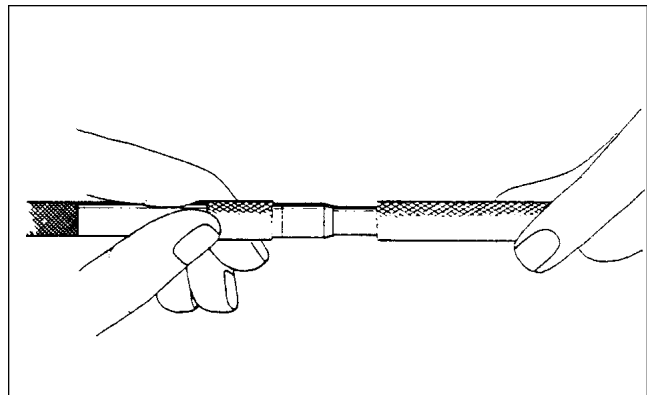

Figure 8-22. Inserting Stripping Tool
- d. Be sure the stripping tool is inserted past the cutting mark. Then cut the shielding with a sharp knife using a rolling motion. Remove the shielding and stripping tool. **Take care not to cut the silicone insulation.** Refer to Figure 8-22.